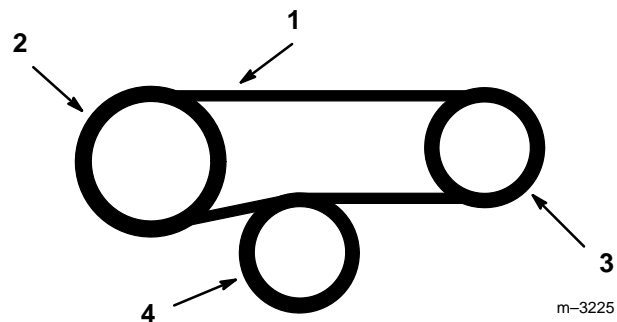

Figure 32
4. Remove belts over clutch (Fig. 32).
5. Install new belts over clutch. Align clutch hub key with crankshaft keyway and notch with stop bracket. Slide clutch onto crankshaft (Fig. 32).
8. Route belts around clutch and gearbox pulleys and above spring loaded idler (Fig. 32).